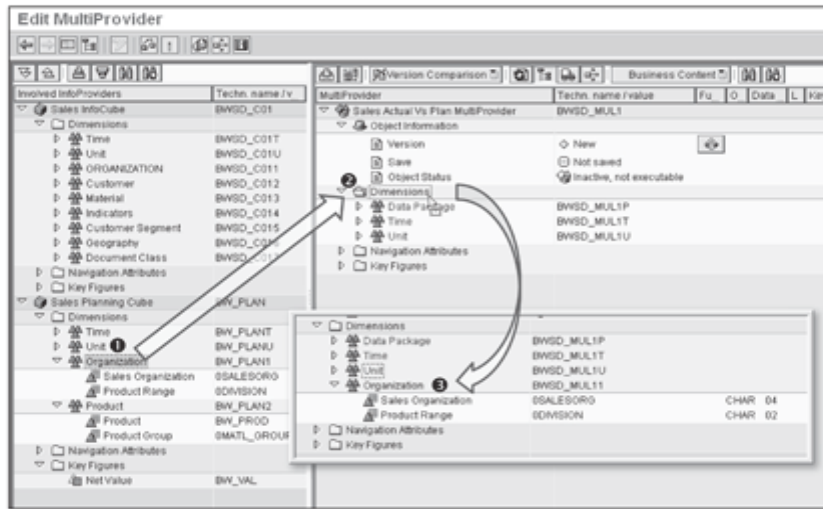

Figure 6.8 Edit MultiProvider: Drag and Drop Dimension
This doesn't apply to creating a MultiProvider, however, because it's an InfoProvider and doesn't store physical data. You can either create new dimensions or directly drag and drop dimensions from any of the InfoCube as shown in Figure 6.8. As shown in ❶ of Figure 6.8, select dimension Organization and drop it over Dimension (❷). The outcome of this activity is Dimension Organization, which is available in MultiProvider BWSD_MUL1 with both the characteristics (Sales Organization and Product Range) of Base InfoCube (BW_PLAN) (❸).